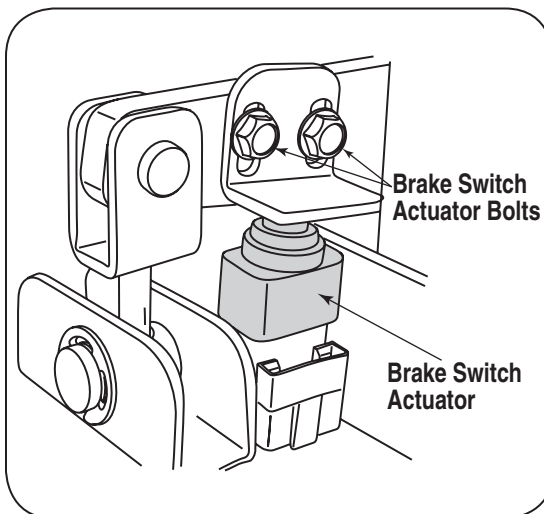

Figure 22
**IMPORTANT:** If gear selector buttons fail to work after making brake adjustment, adjust brake switch actuator upwards. If it is found that the gear selector buttons operate before the vehicle comes to a complete stop, adjust brake switch actuator downwards. To adjust, loosen brake switch actuator bolts, then move the actuator up or down accordingly. See Figure 22.